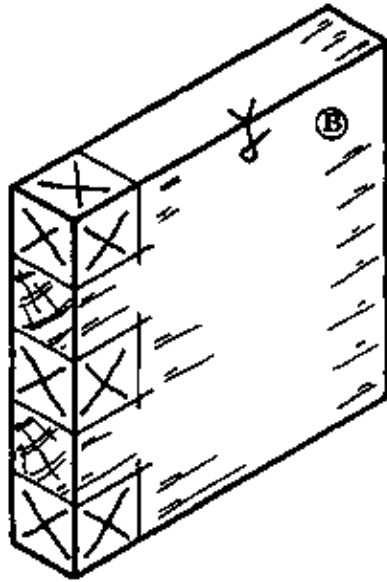

Fig. 4
- Mark out the shape of the tenons on piece B. Keep all tenons the same size (Fig. 4).
– Immediately mark the waste between the tenons with crosses (Fig. 4).